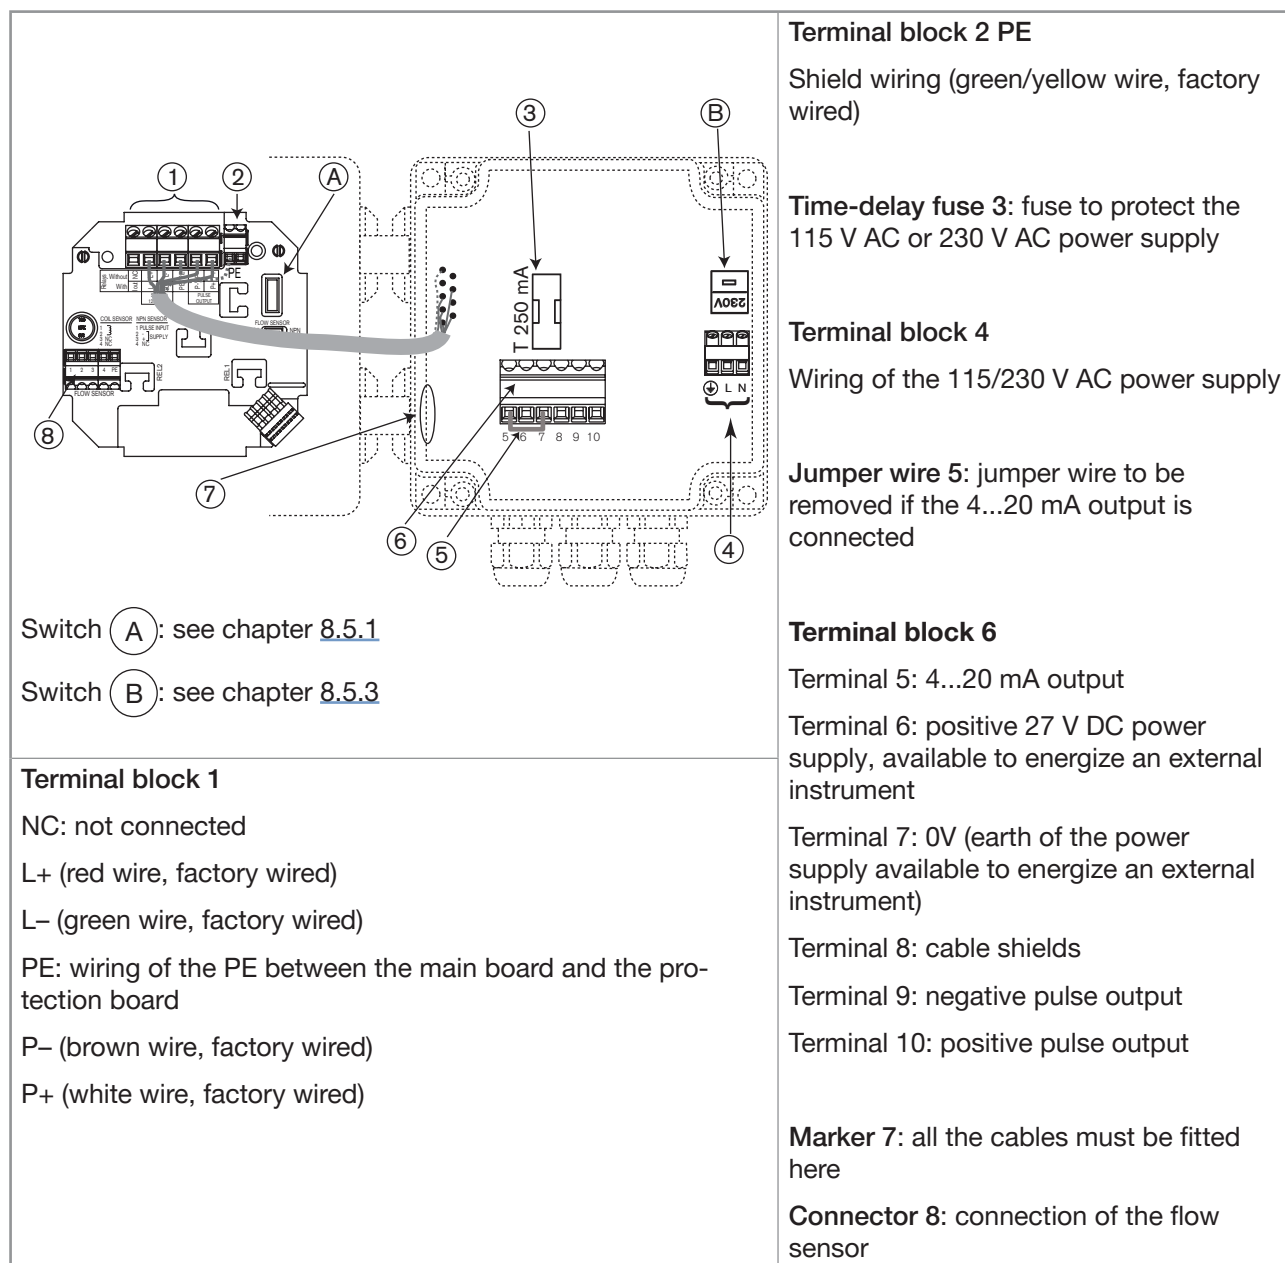
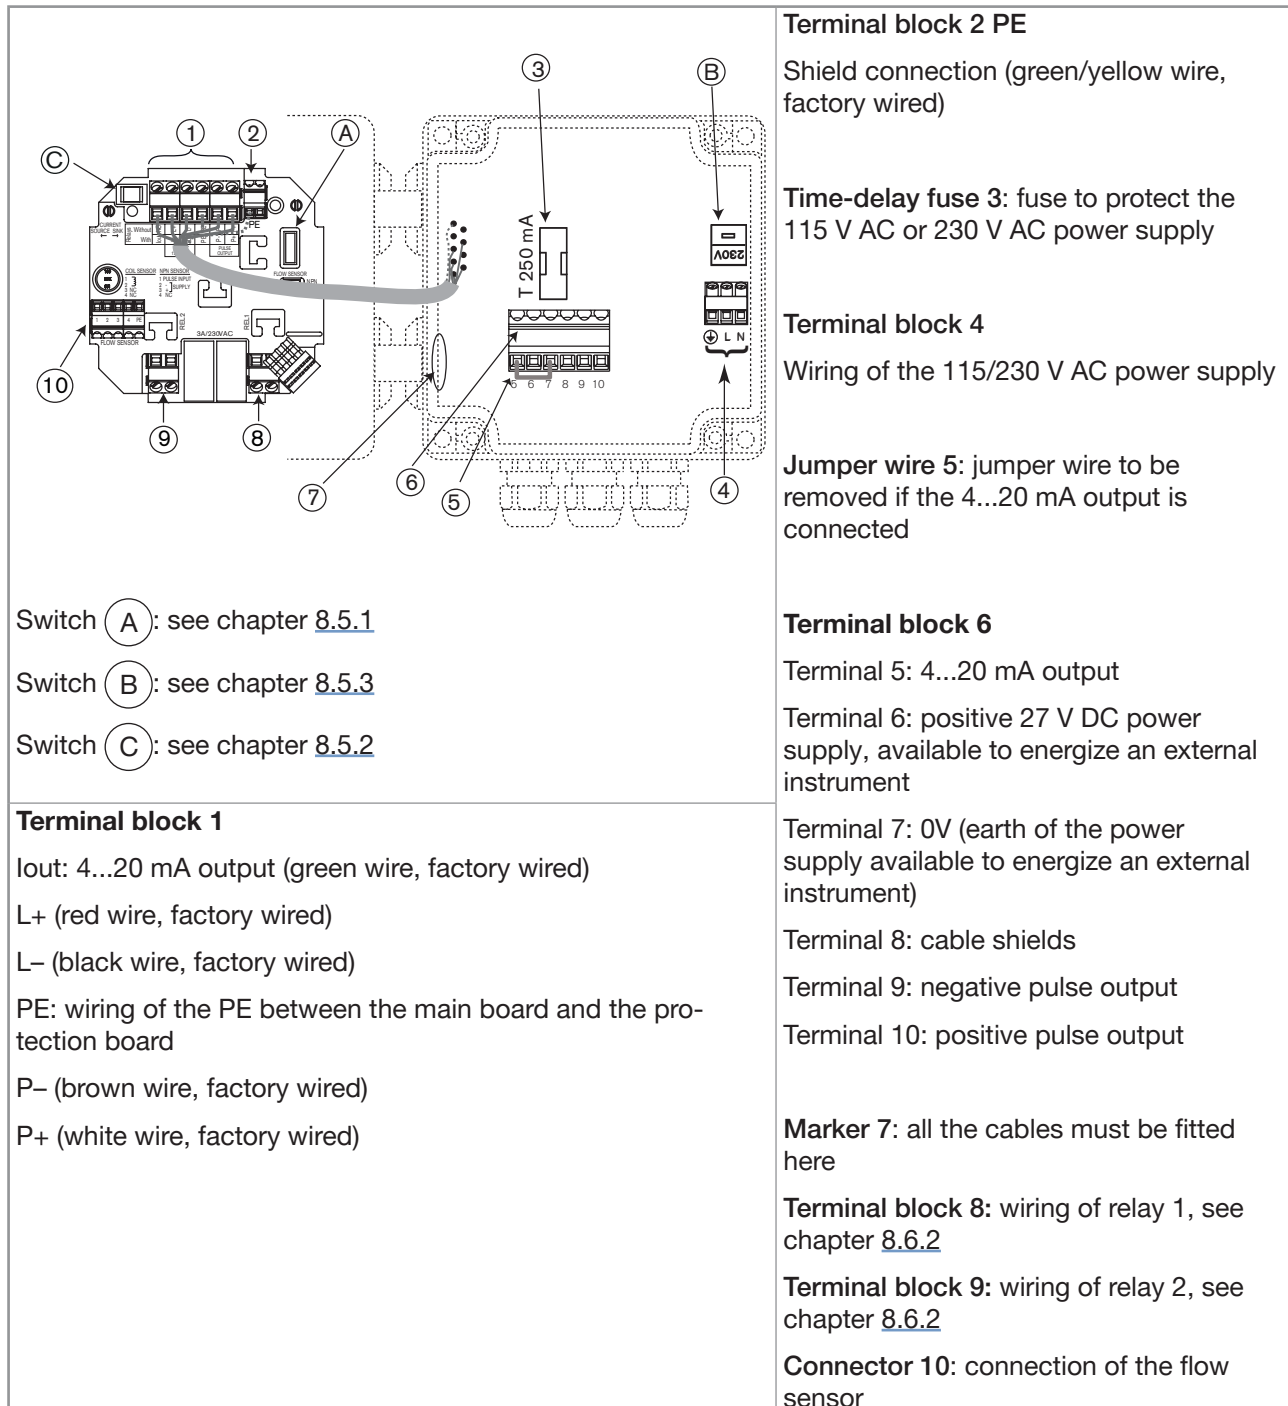

Fig. 46: Terminal assignment of a wall-mounted version, 115/230 V AC, without relays
Fig. 50: Terminal assignment of a wall-mounted version, 115/230 V AC, with relays
- Remove the two terminal blocks (marked [4] and [6] in Fig. 46, chapter 8.8.2 and Fig. 50, chapter 8.8.3) from the housing.
→ Insert the two terminal blocks (marked [4] and [6] in Fig. 46 chapter 8.8.2 and Fig. 50 chapter 8.8.3) into their original position.